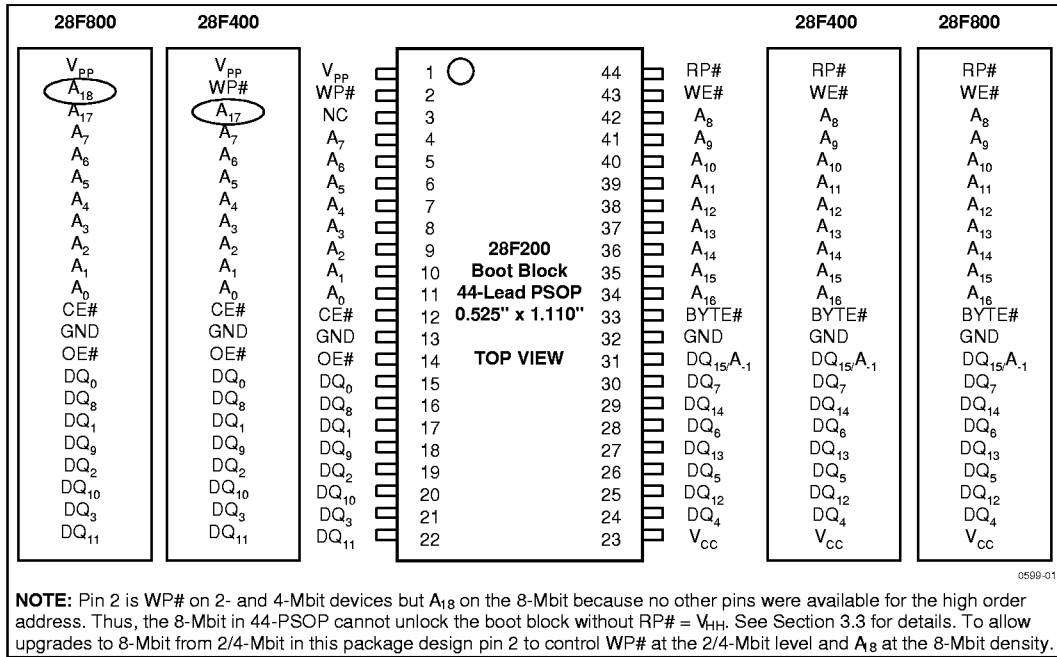
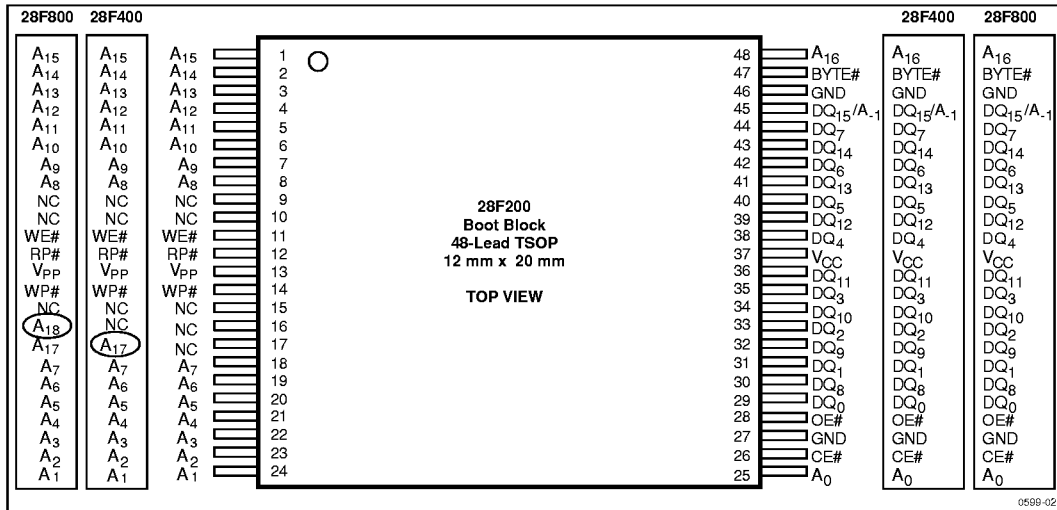

Figure 1. 44-Lead PSOP Pinout Diagram
Figure 2. 48-Lead TSOP Pinout Diagram
-002	<p>Minor changes throughout document. Section 3.1.5 and Figure 14 redone to clarify program/erase operation abort. Information added to Table 2, Figure 1, and Section 3.3 to clarify WP# on 8-Mbit, 44-PSOP. Read and Write Waveforms changed to numbered format. Typical numbers removed from DC Characteristics and Erase/Program Timings.</p>
-003	<p>Minor text changes throughout document. Figure 1, 44-PSOP pinout: mistake on pin 3 on 2-Mbit pinout corrected from A₁₇ to NC. Specs t_{EHQZ} and t_{GHQZ} improved. Explanations of program/erase abort commands reworked in Table 6, Command Codes.</p>
These 5 Volt Boot Block Flash memory products are available in the 44-lead PSOP (Plastic Small Outline Package), which is ROM/EEPROM-compatible, and the 48-lead TSOP (Thin Small Outline Package, 1.2 mm thick) as shown in Figure 1, and 2, respectively.
Intel® 5 Volt Boot Block Flash architecture provides upgrade paths in each package pinout up to the 8-Mbit density. The 44-lead PSOP pinout follows the industry-standard ROM/EPROM pinout, as shown in Figure 1. Designs with space concerns should consider the 48-lead pinout shown in Figure 2. Applications using an 8-bit bus can use the 40-lead TSOP, which is available for the 4-Mbit device only.